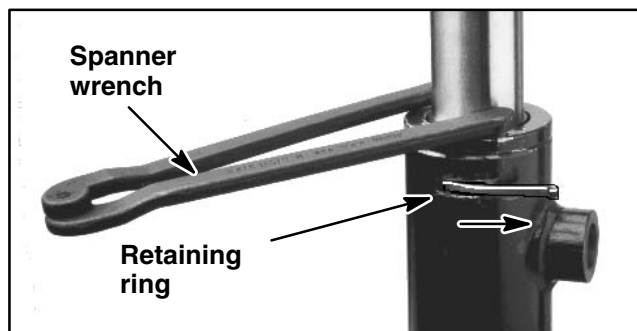

Figure 51
1. Remove oil from the cylinder into a drain pan by **slowly** pumping the cylinder shaft (6). Plug both ports and clean the outside of the lift cylinder.
2. Mount lift cylinder in a vise so that the shaft end tilts up slightly. Remove and discard dust seal (12).
3. Rotate head (3) with a spanner wrench and remove retaining ring as shown in Figure 51.
4. Grasp end of shaft; extract shaft, head, and piston (8) by carefully twisting and pulling on the shaft.
5. Mount shaft securely in a vise by clamping vise on the flats of the shaft. Remove locknut (10) and piston from the shaft. Slide head from the shaft.
6. Remove and discard O-ring (7) and uni-ring (9) from the piston. Remove and discard both O-rings (2 and 5) and backup washer (4) from the head.